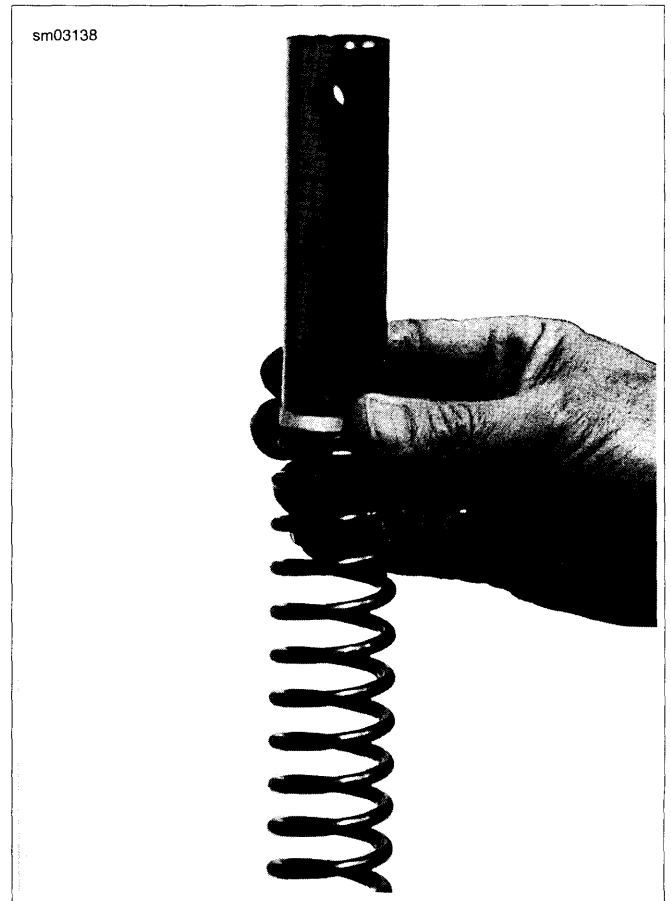

Figure 2-148. Remove Collar, and Spring Assembly
6. See Figure 2-148. Remove collar and spring from fork assembly.